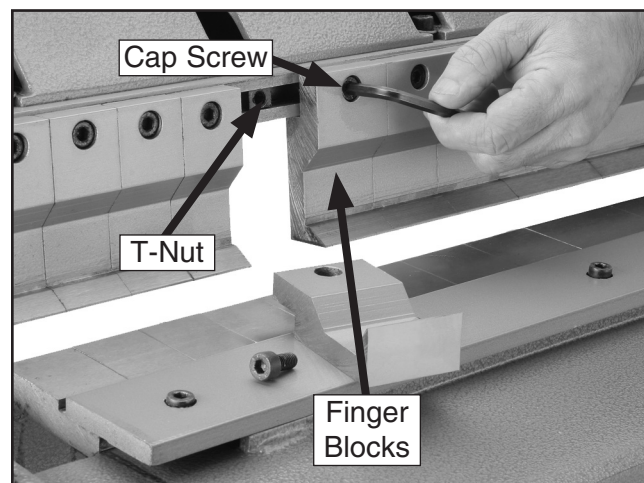

Figure 1. Removing finger blocks.
2. Use a 6mm hex wrench to remove the clamping fingers as shown in **Figure 1**, but leave the T-nuts in the guide slots.